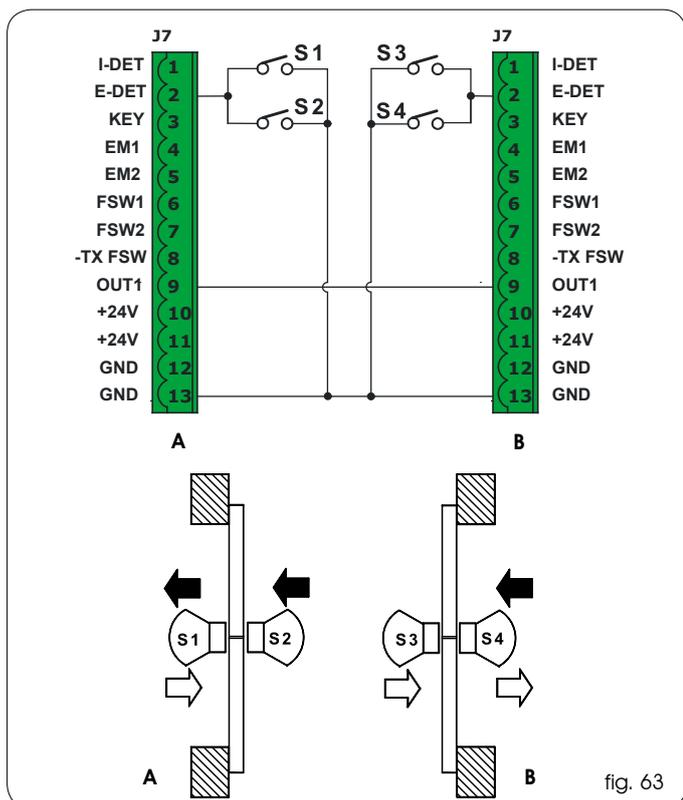

fig. 63
- Make the connections between the J6 terminal boards of the two E140 control boards and the sensors as shown in figure 63.